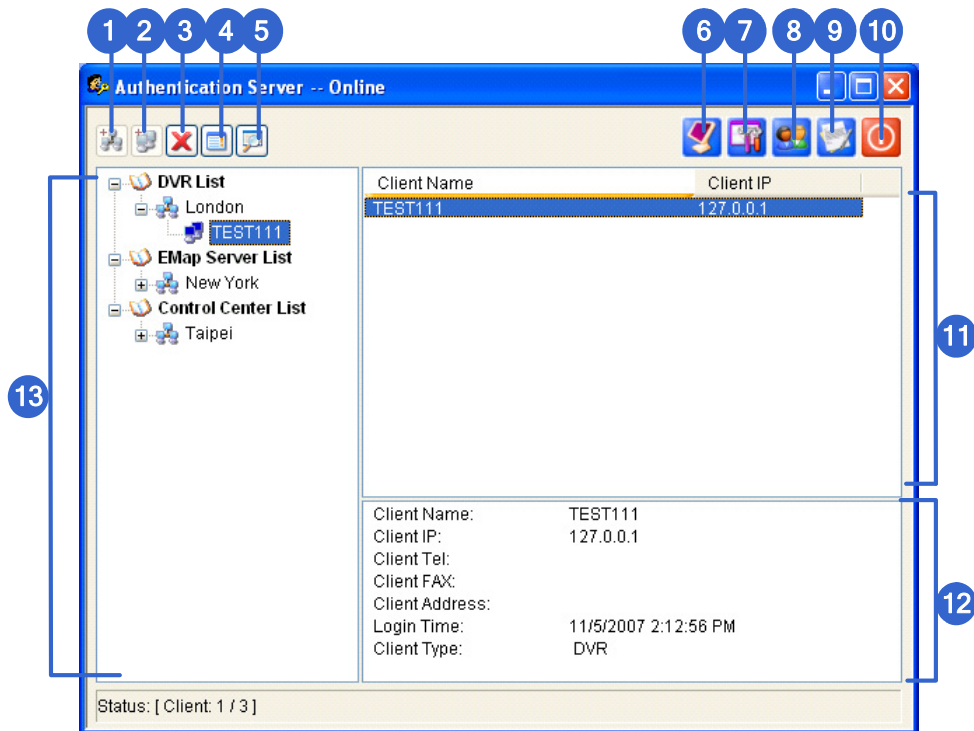

Figure 9-14
1. To create a GV-VMS client, highlight the **DVR List** from the left panel and click the **Add A Client** button (No. 2, Figure 9-14).
4. You can also arrange multiple clients under a group by highlighting a list and clicking the **Add An Area** button (No. 1, Figure 9-14). The created group appears under the selected List.
1. Click the **Account Setup** button (No.8, Figure 9-14) and select **Password Setup**. The Password Setup dialog box appears.
6. In AuthServer, click the **Account Setup** button (No.8, Figure 9-14) and select **Active Directory Setup**. This page appears.